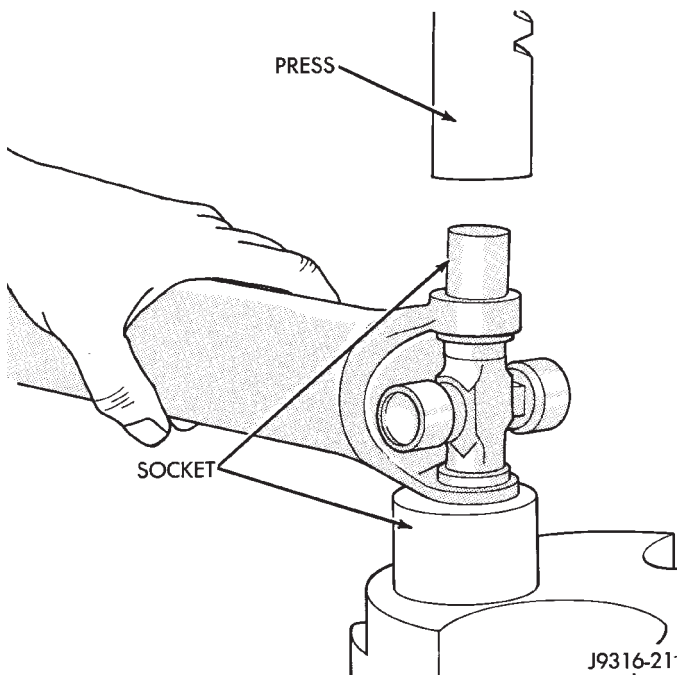

Fig. 19 Press Out Bearing
(5) Set the yoke in an arbor press or vise with a large socket beneath it. Position the yoke with the grease fitting pointing up (if equipped). Place a smaller socket on the upper bearing assembly and press it through to release the lower bearing assembly (Fig. 19).